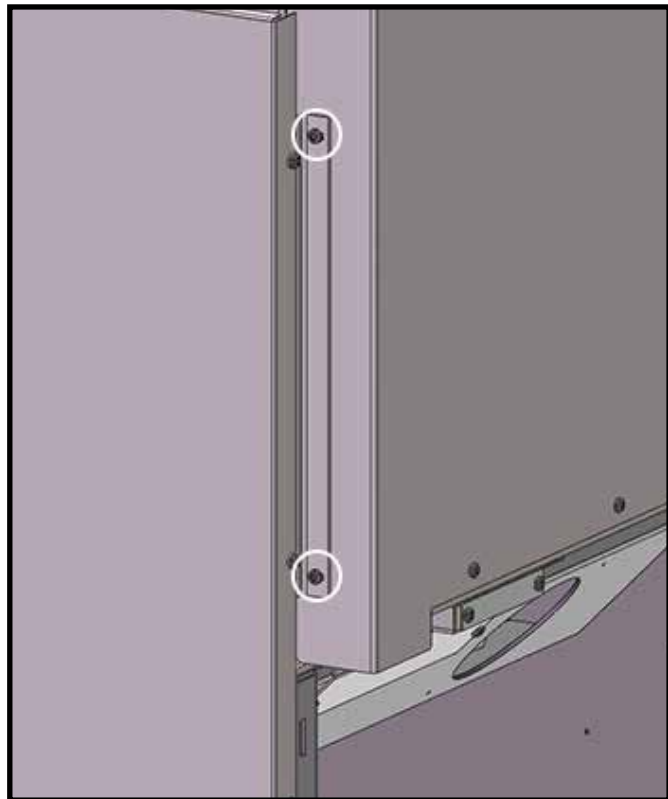

Figure 7: NEOVIEW 2.5 LE Panel - Rear Screws.
4. Using the screws provided attach the Panel to the mounting bracket at the back. (Figure 7).